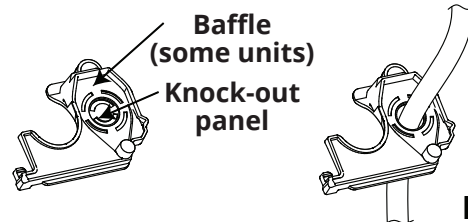

Fig. 5.13
- If the cable selected for the installation is too large to fit through the hole of the unit, remove the middle knock-out panel of the rat baffle (Refer to Fig. 5.13).